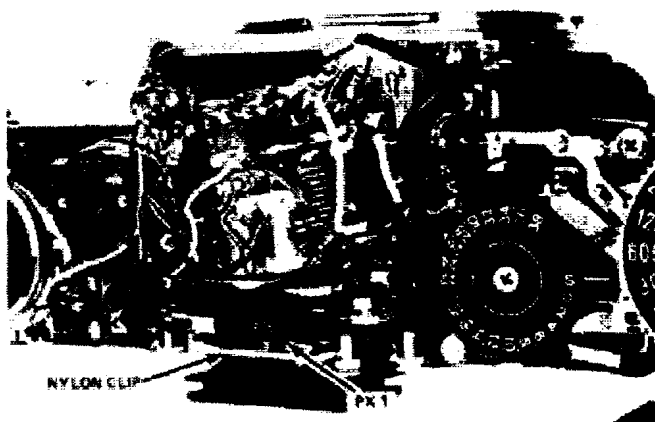
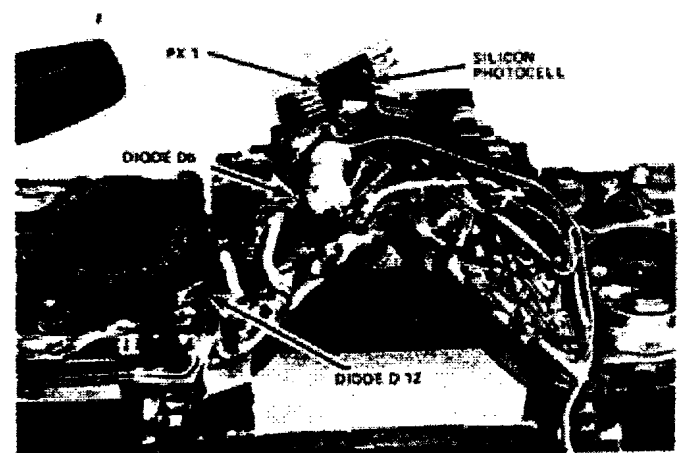

Figure 40
Figure 41
How about PX1? It's a little more difficult to see. PX1 mounts to the section of flex circuit that curls up near the eyepiece, Fig. 40. PX1 contains the silicon photocell and the MOSFET (metal oxide semiconductor field effect transistor) amplifier for the photocell.
A white nylon clip holds PX1 in place. The clip passes over the top of the IC at the back of the flex circuit, Fig. 40. To reach the IC, you can simply remove the clip. And carefully lift out the section of flex circuit containing PX1, Fig. 41.
unit. Early versions of the camera don't have this diode. Diode Db sits on the top of the flex circuit, Fig. 41.
2. We've added diode D12 at the bottom of the schematic. Early AE-1 models have a resistor R12 rather than the diode. Fig. 41 also points out diode D12. If you have a resistor in this position, you're